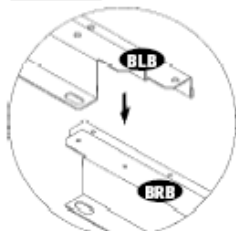

Fig.1
3. Assemble base bar back left (BLB) and base bar back right (BRB) with four (S1) screws. See fig. 1 & 2.